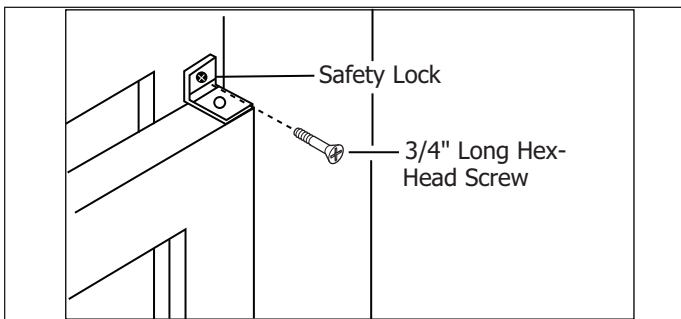

Figure 2-27.
2. Attach right angle safety lock as shown. (See Figure 2-27)